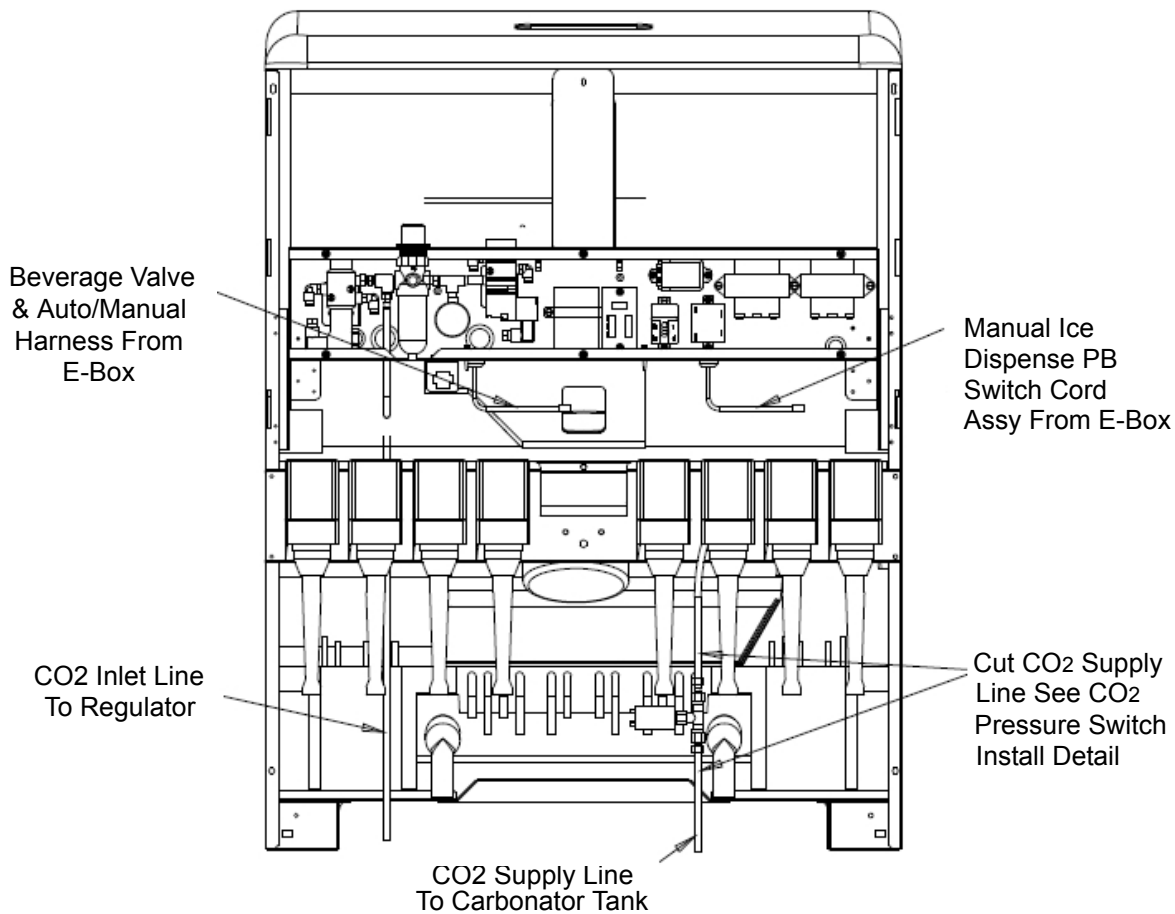
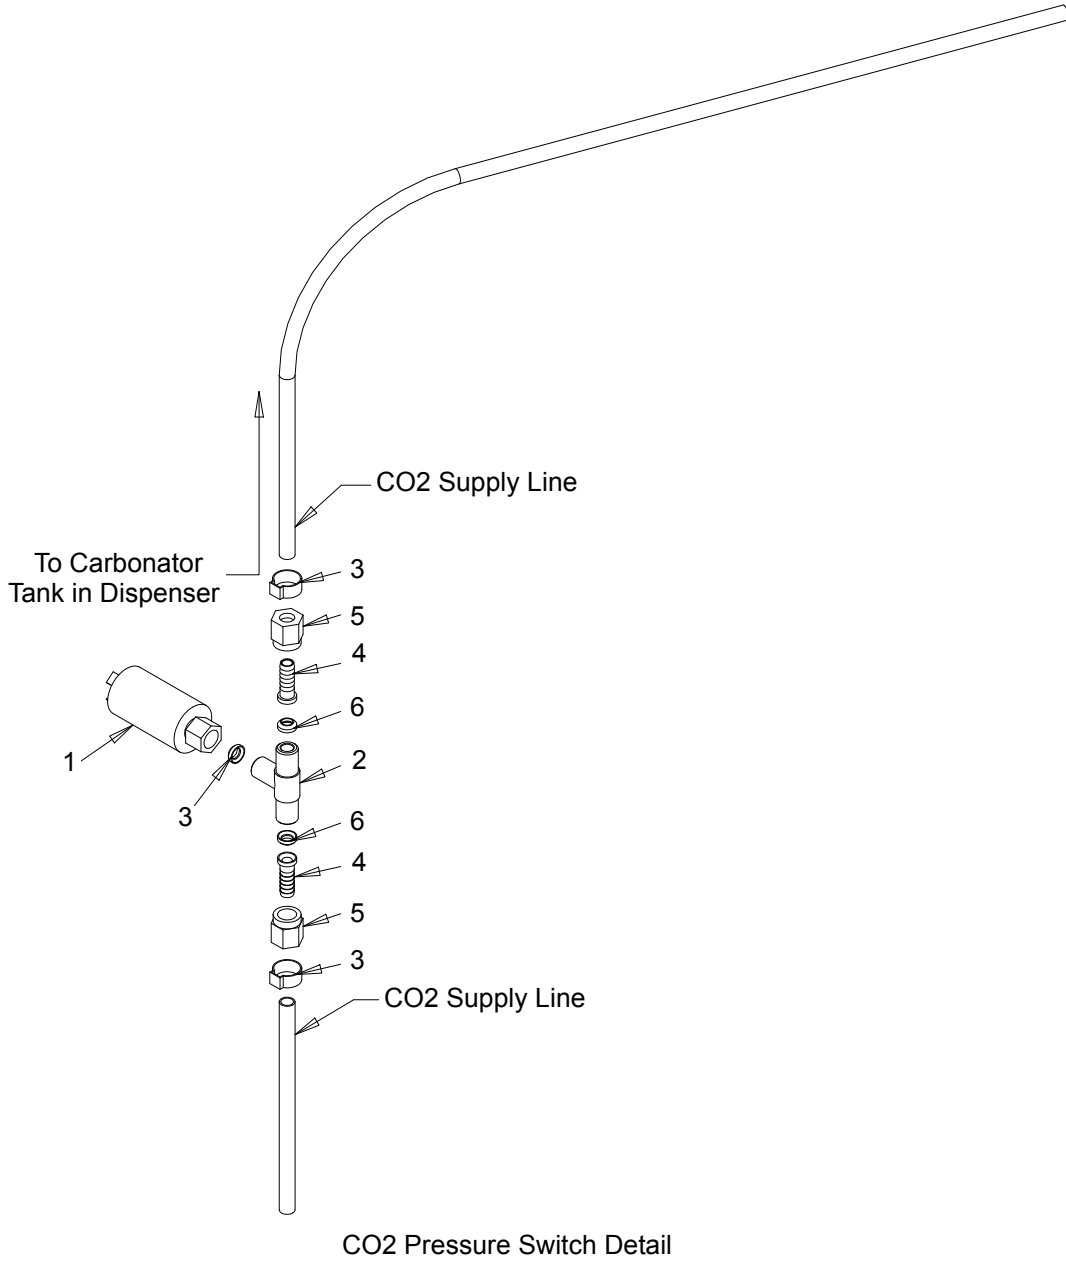

Figure 1.
Figure 3.
1. Remove the upper front panel which is secured to the cabinet by “hooks” that fit into slots on the cabinet front flange. Lift up on the panel right and left sides to disengage the hooks from the slots and then rotate the panel downward and forward to remove from the cabinet. Disconnect the (3) electrical harnesses at the rear of the front panel.
3. Locate the CO₂ supply line (1/4 beverage tubing) to the carbonator tank located on the right side of the unit above the coldplate (see Figure 1). Cut this line in an area that will be accessible for future servicing and install the CO₂ pressure switch with the fittings provided in the kit (see Figure 3).